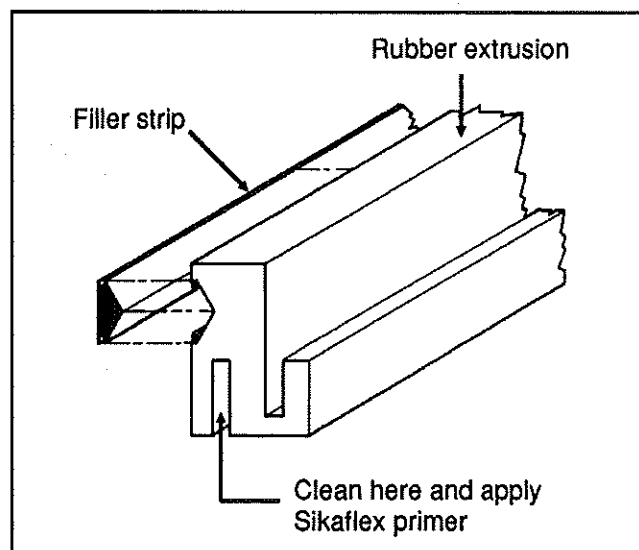

Fig. 32
1. Clean the rubber extrusion with wiping towels soaked with isopropyl alcohol. Wipe with dry wiping towels and let dry 1 to 2 minutes. See figure 32.